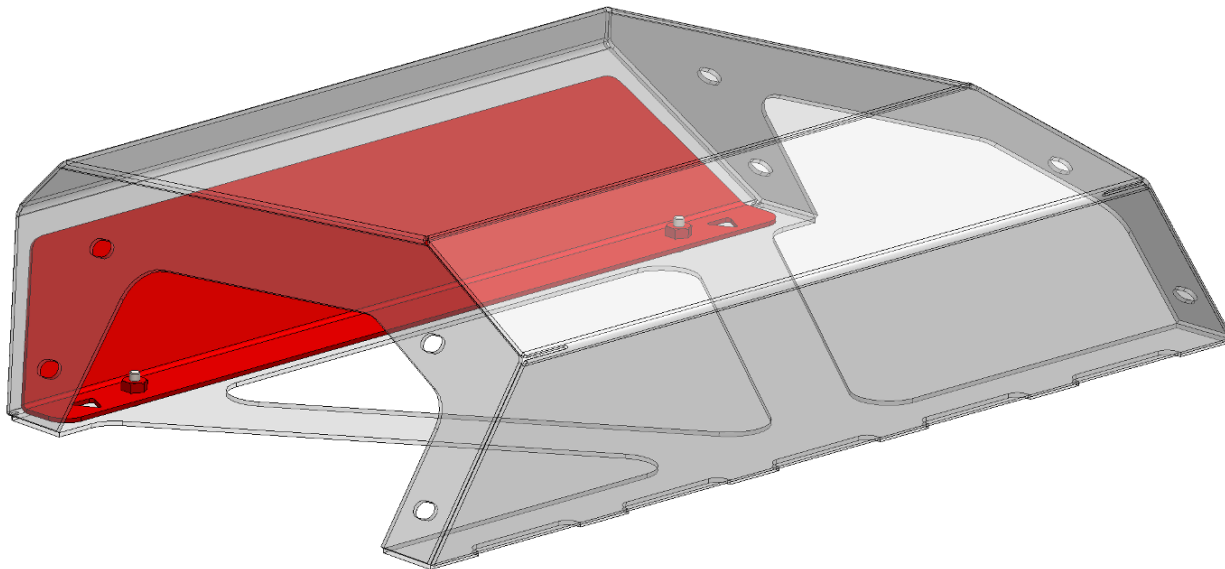

Figure 24.
26. Install the top logo color plate by placing it in the center riser and fastening it with two (2) M6 button head bolts. Figure 24.